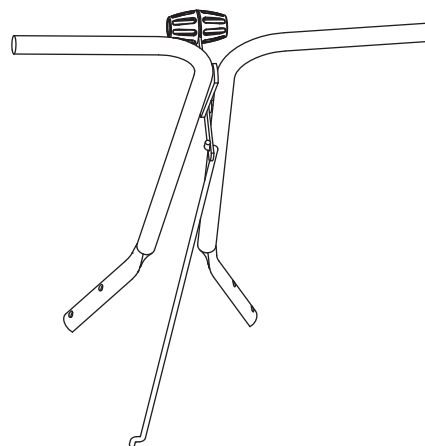

Figure 3
4. Install linkage to lever, Figure 3.